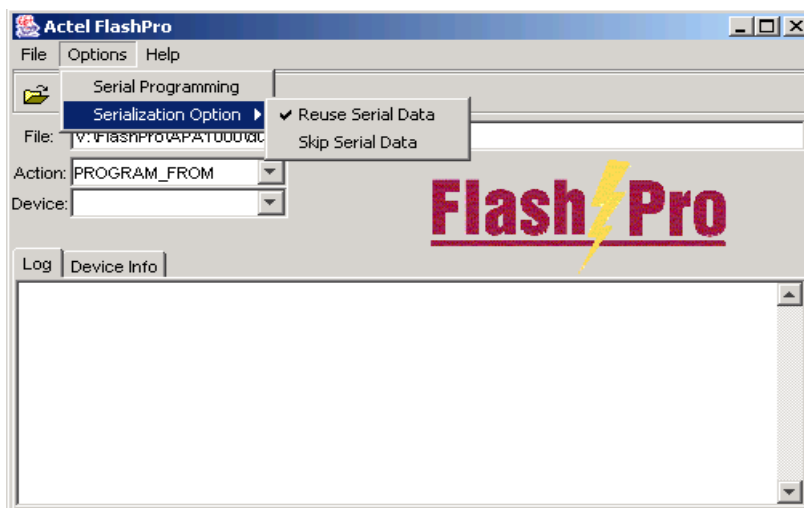

Figure 4-27. Serialization Option
2. Select either **Reuse Serial Data** or **Skip Serial Data**. See Figure 4-27.